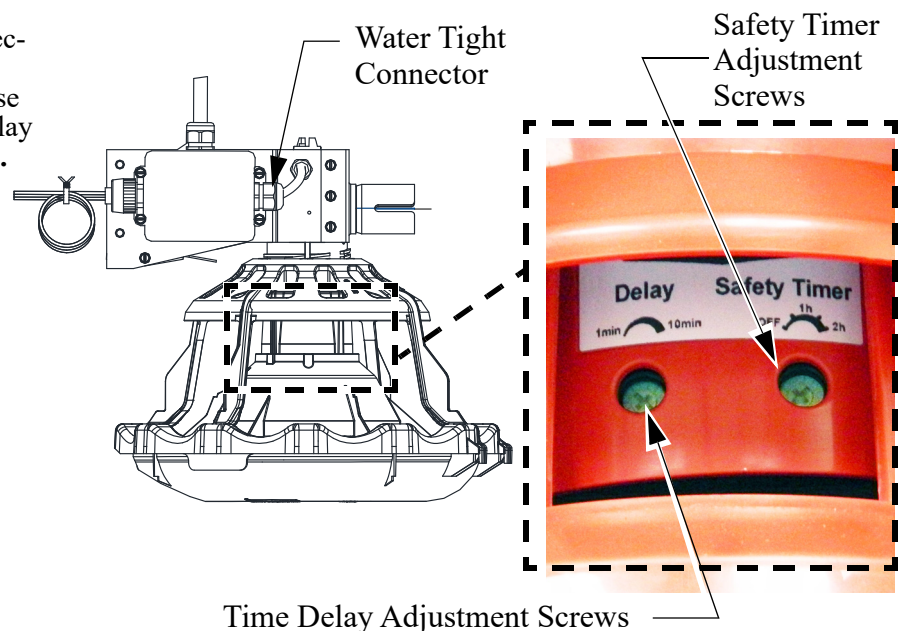

Figure 68. Adjusting the Electronic Sensor
The Electron Sensor's sensitivity is preset at the factory. The time delay adjustment is 1 minute to 10 minutes. *The factory setting is 1 minute.* The Sensor also comes with a Safety Timer that can be set to: Off, 1 hour, or 2 hours. The *factory setting is 2 hours.* To get access to the Adjustment Screws See **Figure 68** below.
2. Pull the Sensor Down to expose the Safety Timer and Time Delay Adjustment Screws **Figure 68**.